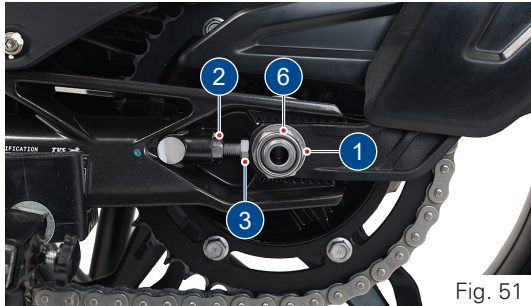

Fig. 51
- Release the lock nuts (2 & 3) (ref. Fig. 51 & 52) using proper spanner from the tool kit (**ref. page 155**).
- Turn the adjuster screws (4 & 5) 'in' or 'out' to obtain the specified slackness in the chain (ref. Fig. 51 & 52).
- Similarly, tighten the rear axle nut and lock nut to the specified torque, and check and ensure the chain slackness (ref. Fig. 51 & 52).